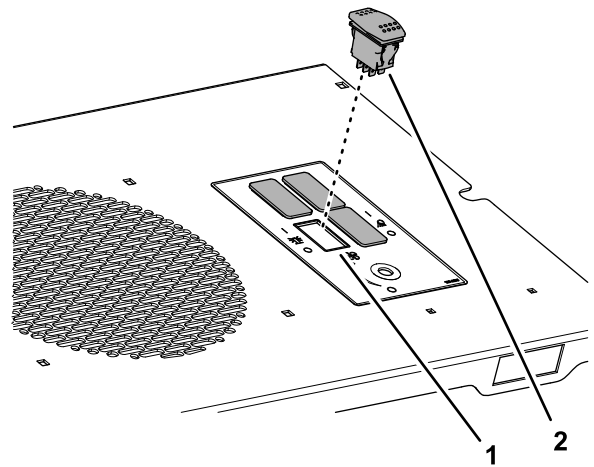

Figure 12
- Connect the beacon switch to the switch panel as shown in Figure 12.